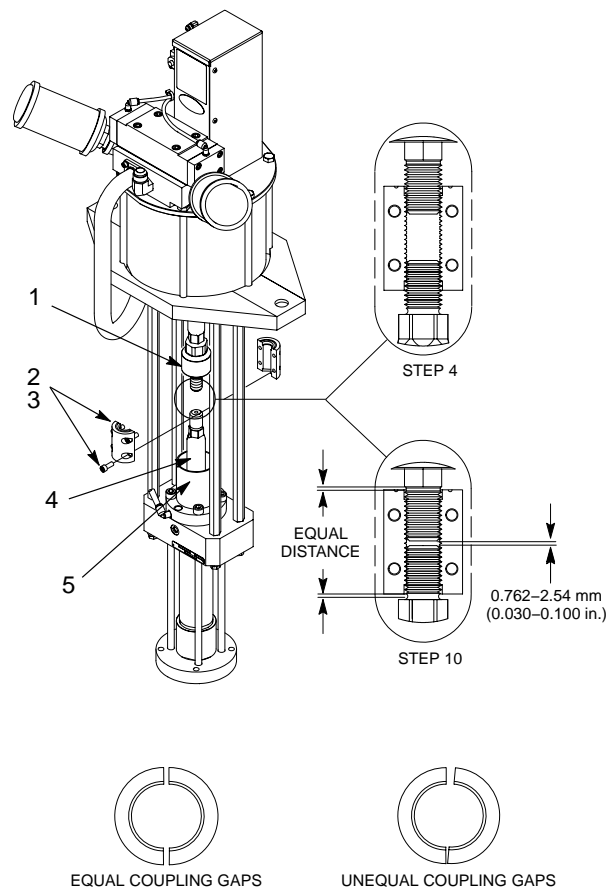

Figure 3 Installing the Coupling Halves
| OFF | <p>NOTE: The coupling halves are a matched set. Each half is stamped with the same serial number.</p> <ol style="list-style-type: none"> 3. See Figure 3. Make sure that grooved end of each coupling half (2) is facing upward. Position both halves (2) over coupling shaft (1) and plunger rod (4) as shown. 4. Make sure that three threads of coupling shaft (1) and plunger rod (4) are engaged in coupling. Secure coupling halves with coupling screws (3). 5. Make sure that bleed valve on pump body is open and not plugged. |